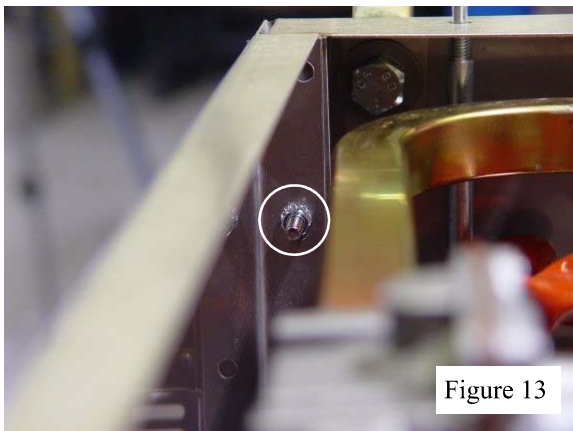

Figure 13
9. Remove the two bolts that pass through the control panel and side panels. (Figures 13 and 14) You will need an 8mm nut driver.